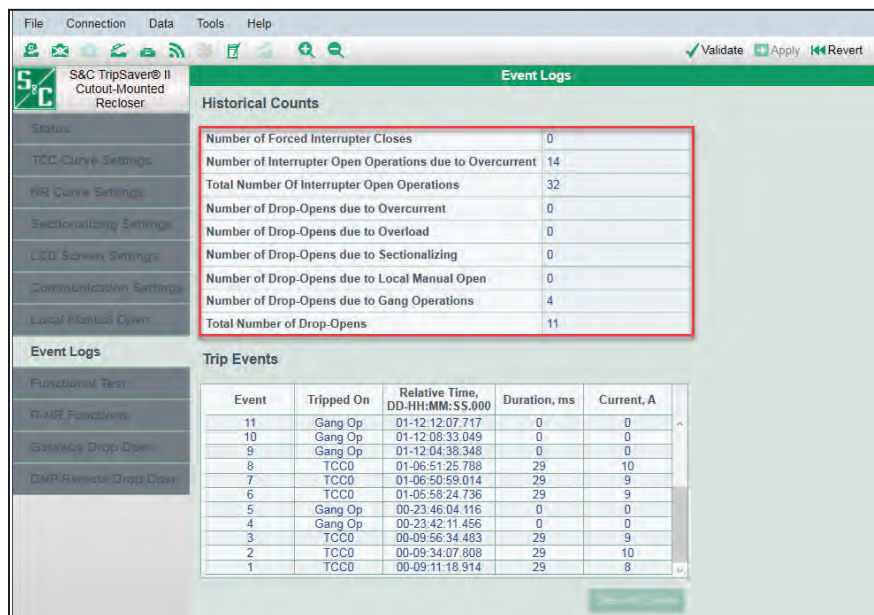

Figure 126. The *Event Logs* screen.
The *Event Logs* screen provides eight different historical counts, including the number of interrupter operations and recloser drop-opens, of the connected TripSaver II recloser, and the duration and current level of the last 25 trip events. See Figure 126.
**Number of Drop-Opens due to Overcurrent.** This is the number of times the TripSaver II recloser has dropped open because of an **Overcurrent** condition. See Figure 126 on page 90.